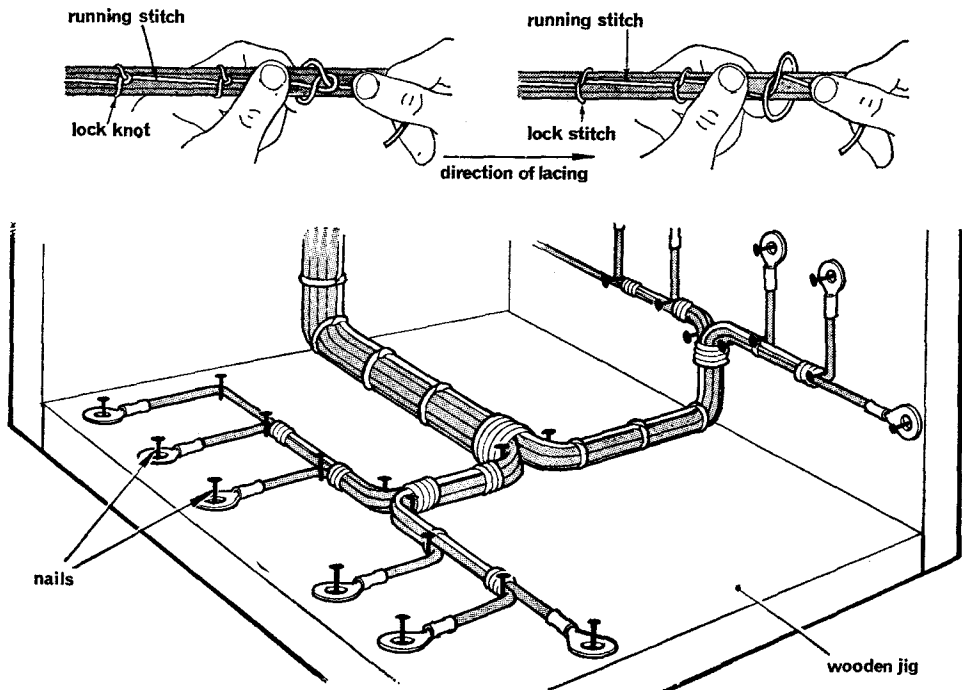

Fig. 28. Making a cable loom
a. Lacing. A running stitch is pressed tightly against the cable loom by means of locking knots or locking stitches formed at regular intervals along the loom. The running stitches should be kept in line, and parallel to the wires of the cable loom (see Fig. 28).